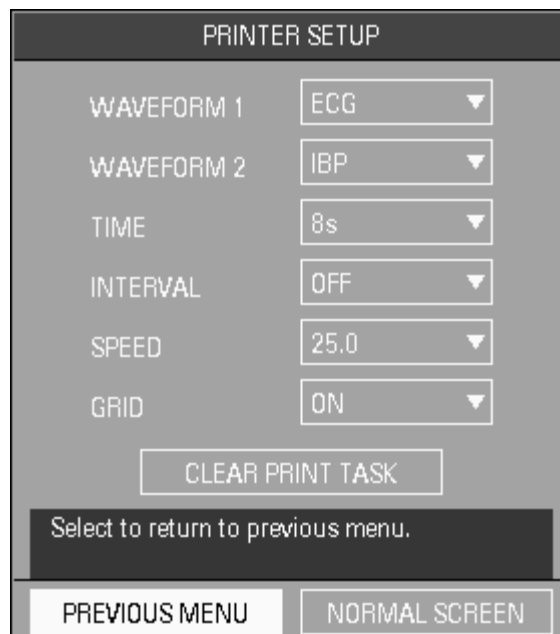

FIGURE 2-57 Printer Setup Menu
3. Select **PRINTER SETUP**. The **PRINTER SETUP** menu (FIGURE 2-57) is displayed.